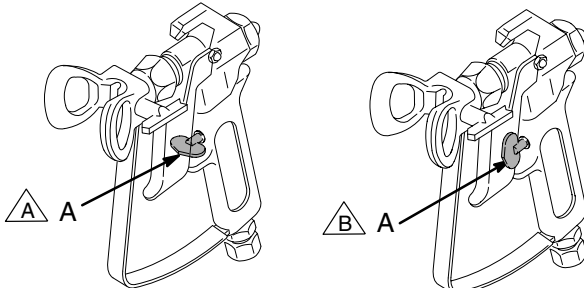
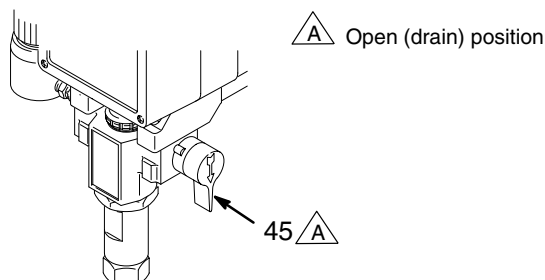

Fig. 4
Fig. 8
When engaged, the gun safety latch (A) prevents the gun from accidental triggering. See Fig. 4.
1. Open the pressure drain valve (45). See Fig. 8.
3. Put the suction hose (32) into the paint.
4. Turn the pressure control (64) to minimum.
5. Disengage the gun safety latch. See Fig. 4, page 7.